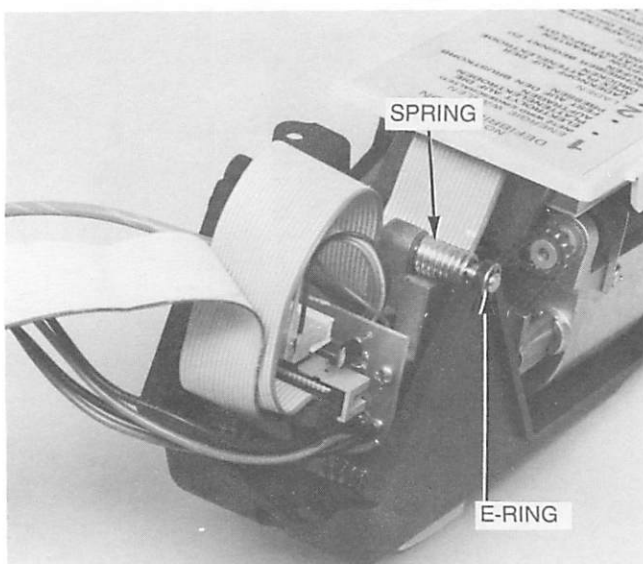

Figure 4-19.
3. Pry the E-ring from one end of the shaft. Withdraw the shaft from the assembly. See Figure 4-19.